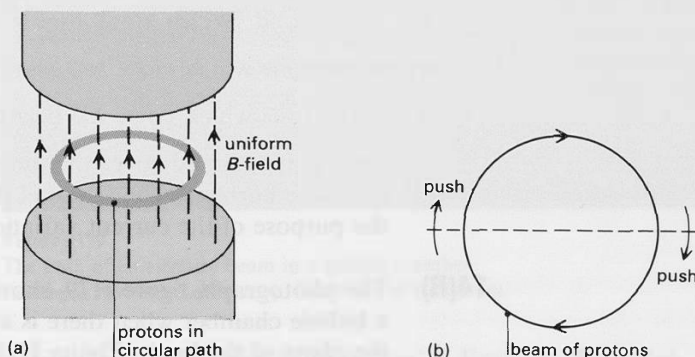

Figure H76
- 12(L)** In a cyclotron, protons are kept moving in a circular path by a uniform B -field at right angles to the plane of the path – figure H76(a). In the first cyclotron, made by E. O. Lawrence, protons were accelerated to an energy of 13 keV.
The cyclotron worked by giving particles of any energy, on their respective paths, a push every time they had completed half an orbit – figure H76(b).